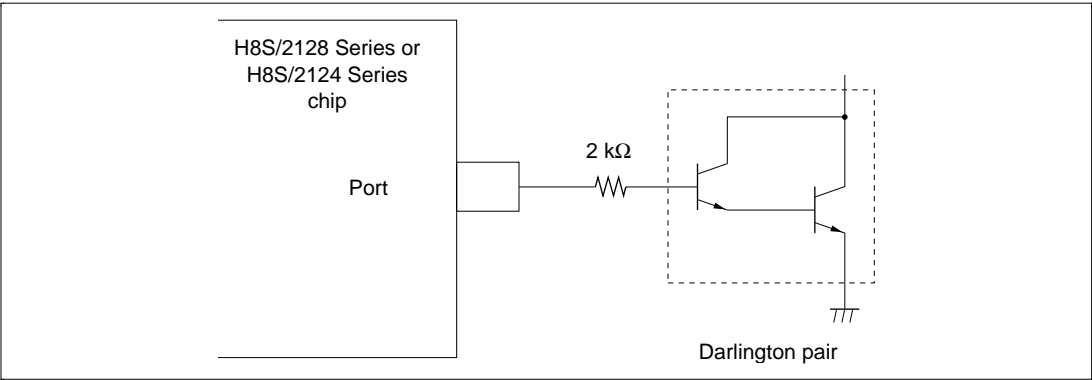

Figure 22.1 Darlington Pair Drive Circuit (Example)
2. When driving a Darlington pair or LED, always insert a current-limiting resistor in the output line, as show in figures 22.1 and 22.2.